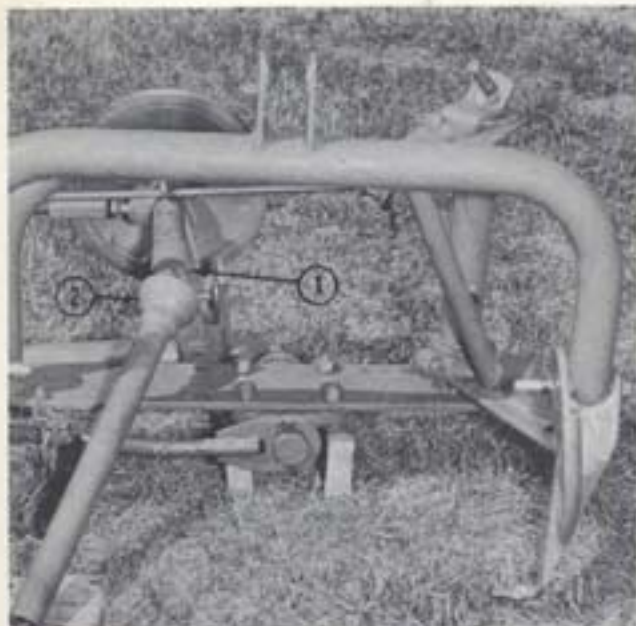

Fig. 56 Sixth Stage of Assembly
9. Place the four $\frac{5}{8}$ " bolts through the base casting with their heads downward, hold them in position by placing two short blocks beneath their heads as in Fig. 56. Lower the frame group onto the bolts, with the bolts inserted through the appropriate holes for the wheel width spacing of the tractor to be used. In Fig. 56 the bolts are positioned for a tread setting of 72-76 inches. For a clearer illustration, and also details pertaining to the 52-56 and 62-66 inch wheel settings, refer to the diagram Fig. 9 in the "Mower Width Adjustment" section. Place lockwashers and nuts on the base bolts and tighten them down to 125-150 ft. lbs. torque, which is equivalent to a strong pull on an 18" wrench.
10. Attach the PTO shaft to the drive shaft (Fig. 56) by means of a woodruff key and drive pin.